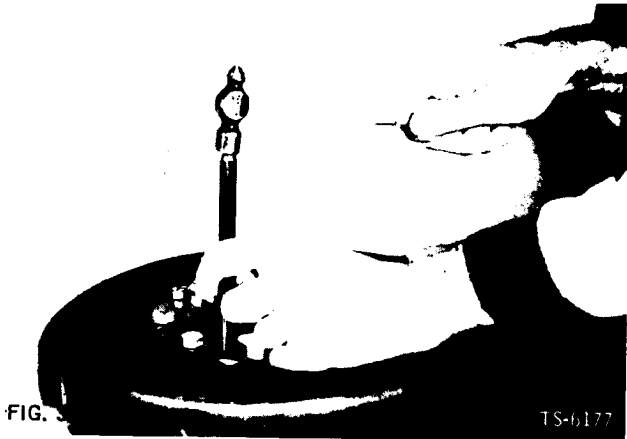

FIG. 33
32. Match mark parking brake drum to companion flange (Fig. 33). This will assure proper balance of parts when reassembled.